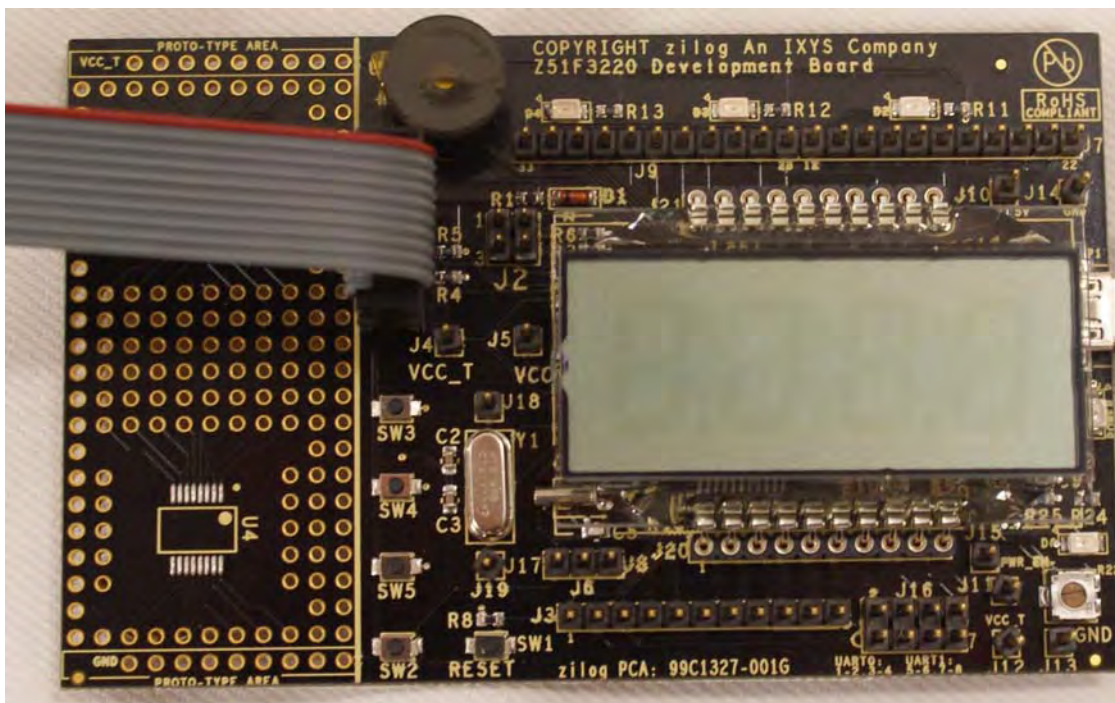

Figure 13. Connecting the 10-Circuit Cable to the Board
3. Connect the other end of the 10-circuit cable connector to the Z51F3220 Board's J1 connector. Pin 1 of the cable connector is indicated by a red stripe, as shown in Figure 13.